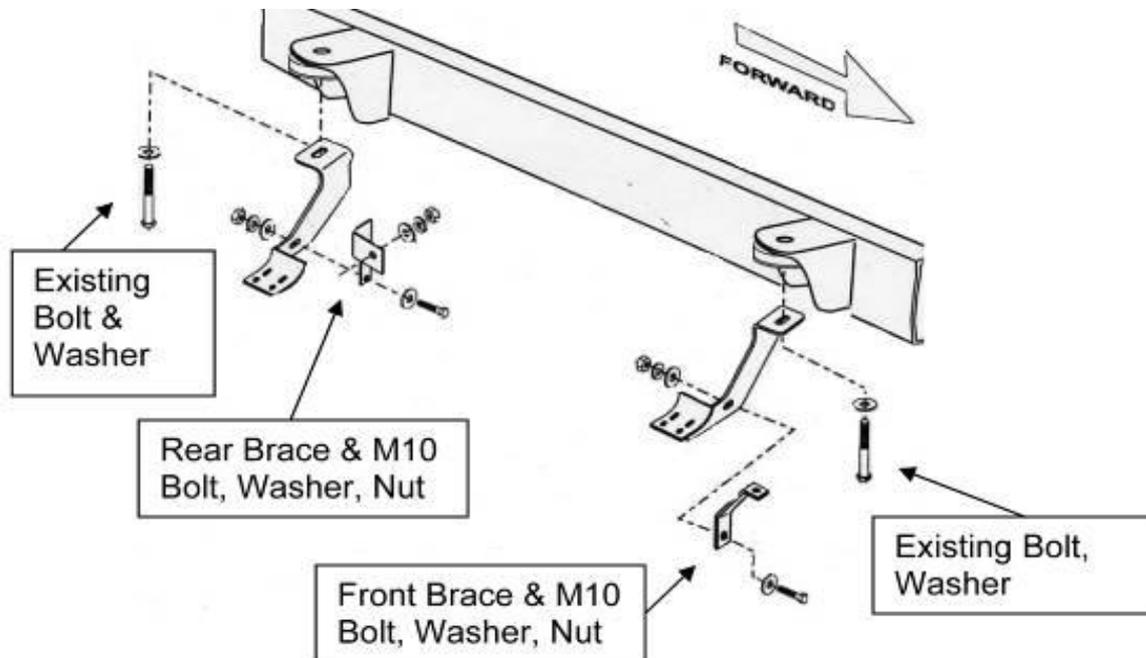

Figure 1. Passenger Side Shown
1. Remove existing body mount bolts as shown. DO NOT DISCARD! (Fig. 1)
2. Install front and rear brackets as shown (Fig. 1 & 4). Hand tightens.
6. Install front and rear support braces as shown. Hand tighten.(Fig. 1, 3, 4)